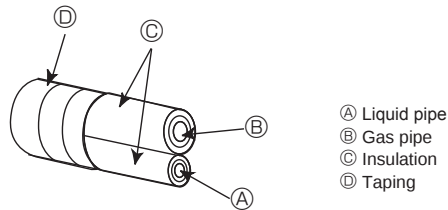
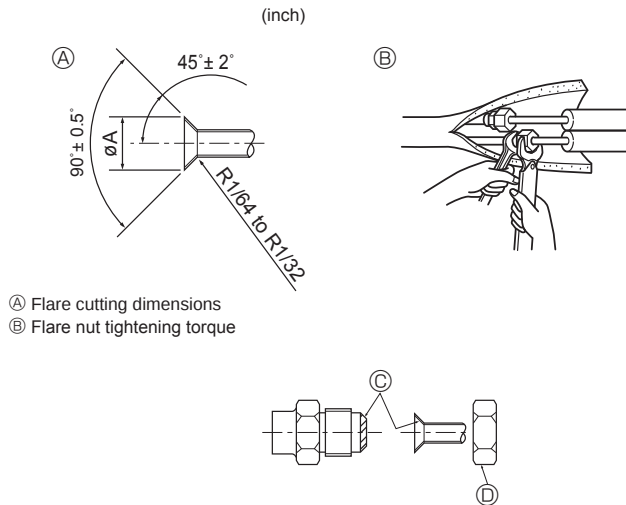

Fig. 4-4
Fig. 4-5
4.3. Connecting pipes (Fig. 4-4, Fig. 4-5)
[Fig. 4-5]
④ (Fig. 4-5)